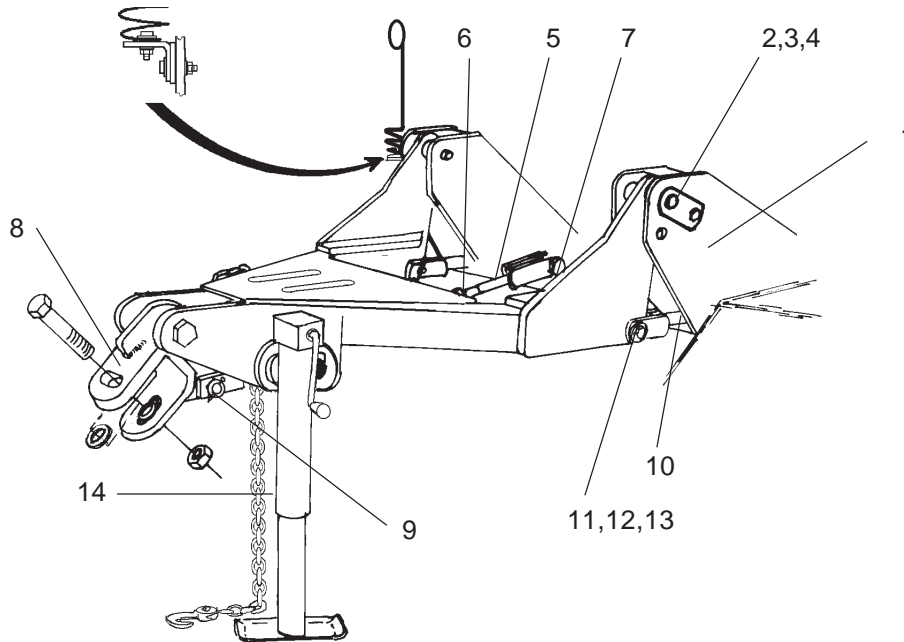
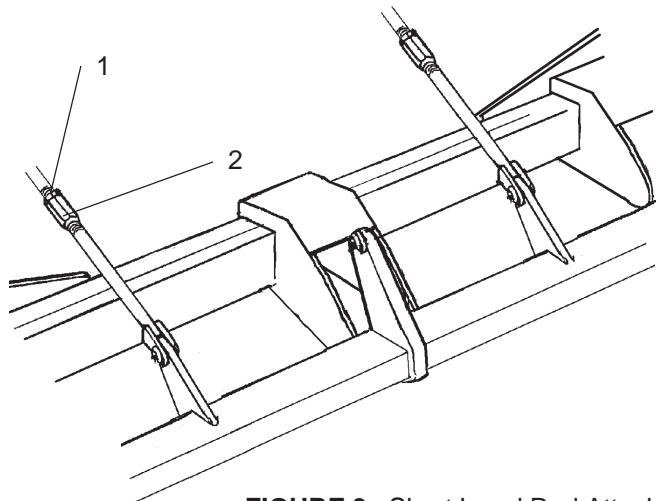

FIGURE 2. Tongue Assembly/Level Rod Assembly
FIGURE 3. Short Level Rod Attachment To Axle
To assemble the tongue (**FIGURE 2**). Align the lugs of the tongue with the top holes of the mainframe hitch plate (1). Insert the pivot pin (2) and fasten with 2 - 3/8" x 1 1/4" bolt (3) and 3/8" locknut (4). To assemble the control rod insert a jam nut to the short rod (5), then insert the short rod (5) into the long rod (6). Align the hole of the short control rod (5) to the top hole of the center lug on the mainframe (7). Insert pin and lock with cotter pins. Align the hole of the long rod (6) to the clevis hitch (8) and insert pin with cotter pin (9). Attach the Safety Chain (14) by looping it through the hole on the tongue and the largest link on the chain. Make certain to securely attach the hook end to the tractor when transporting.
Lay Long Level Rods (10) on Center Section frame tube and attach to Tongue with Level Rod Pins (11), washers (12), and cotter pins (13) shown in **FIGURE 2** above. Attach Jam Nuts (5) and Adjusting Nuts (6) to the Long Level Rods. Install Short Level Rods to Adjusting Nuts. Measure and adjust to the same length. Then attach the Short Level Rods to the Rear Axle with Level Rod Pins, washers, and cotter pins. **FIGURE 3** below.